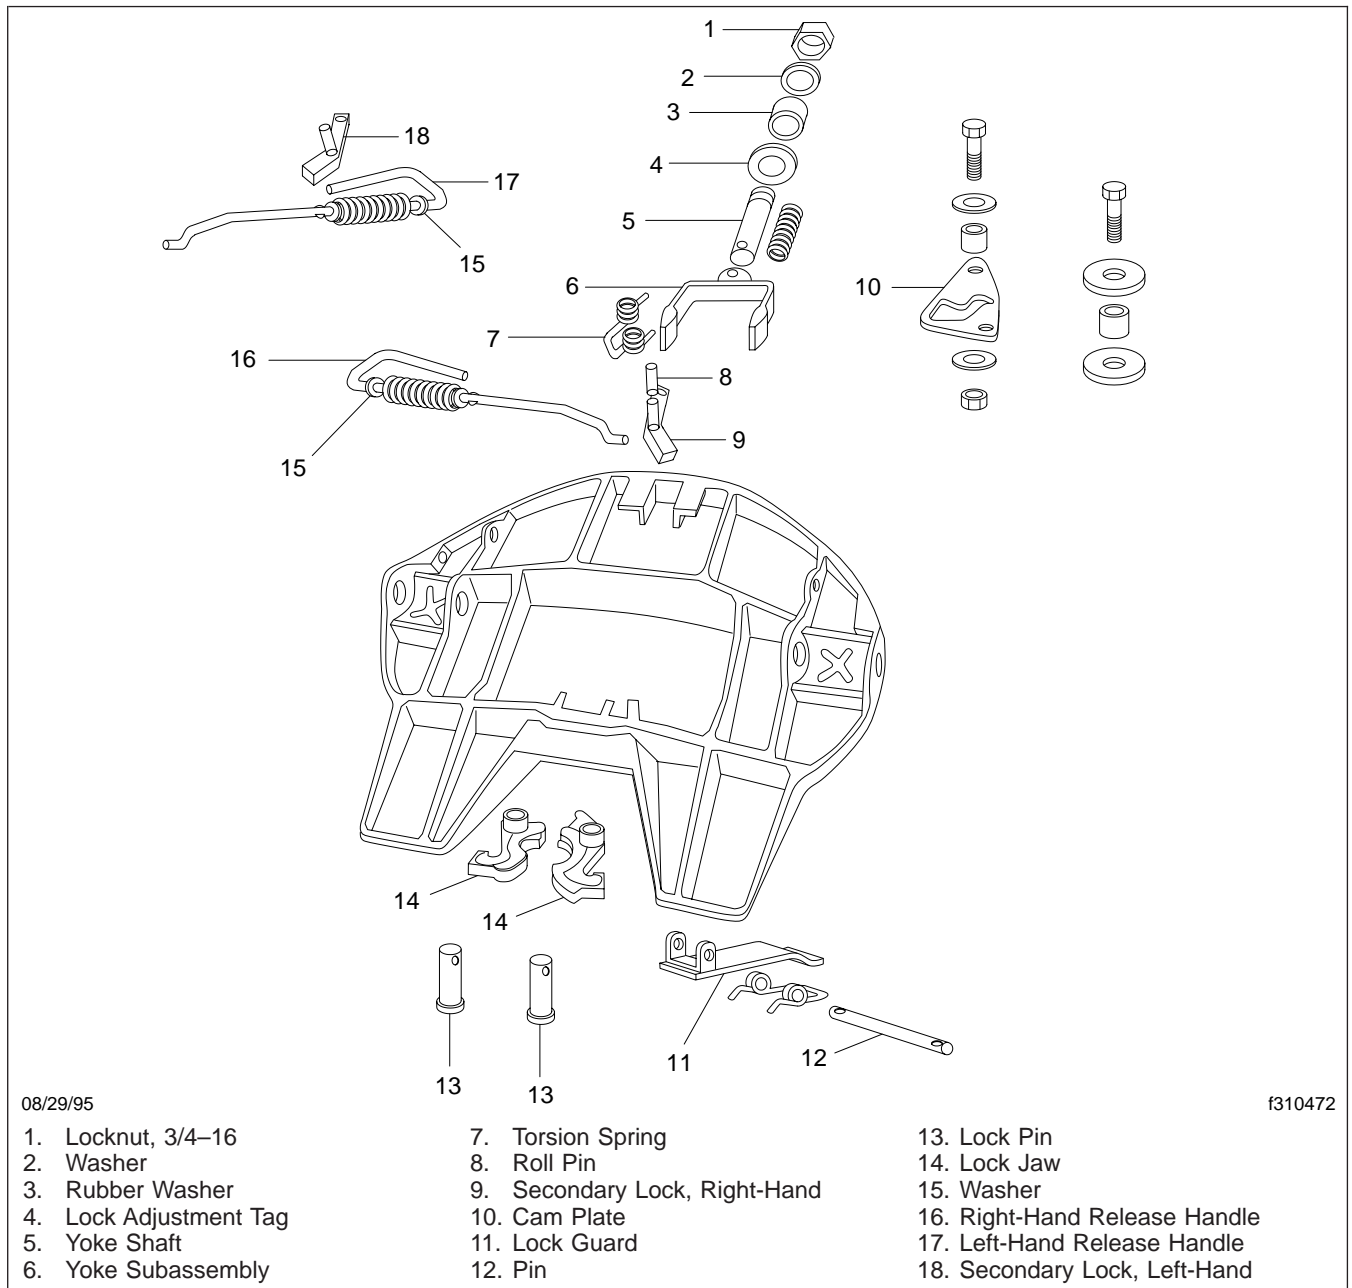

Fig. 2, Holland Fifth Wheel
7. Check the condition of the X-pattern cast into the underside of the fifth wheel top plate. See **Fig. 2**. The fifth wheel top plate must be removed to check the X-pattern.